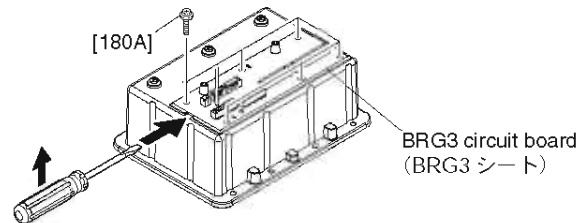

Fig. 1 (図 1)
- * Insert the flat blade screwdriver or the like under the BRG3 circuit board, and lift the screwdriver's grip to remove the BRG3 circuit board. (Fig. 1)